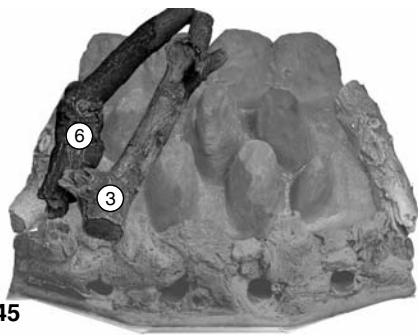

Fig. 45
5. Following Figs. 45 to 51, place the loose logs on to the fuel bed. It is important that the logs 'nest' together and sit on top of the fuel bed peaks.